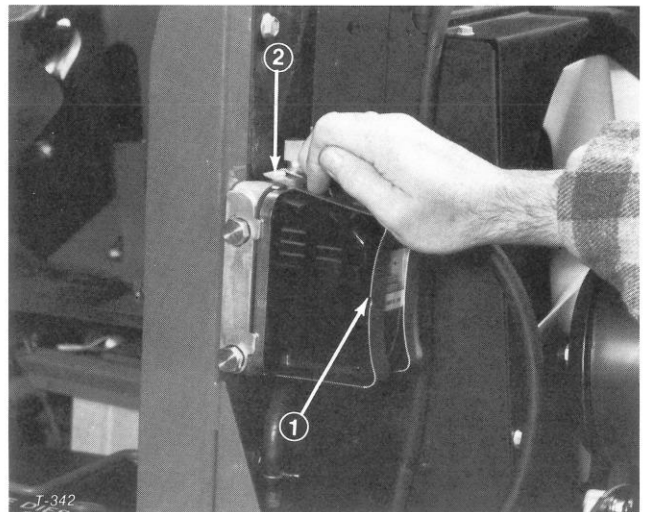

Figure 48
2. Press against extended tab on retaining clamp with heel of hand and lift slotted tab with fingers of the same hand to release clamp from locking slot in base (Fig. 48).
5. Engage lower element tab to slot in base. Press against clamp tab with heel of hand and push locking tab into top slot in base (Fig. 48). Ensure clamp is securely in place.